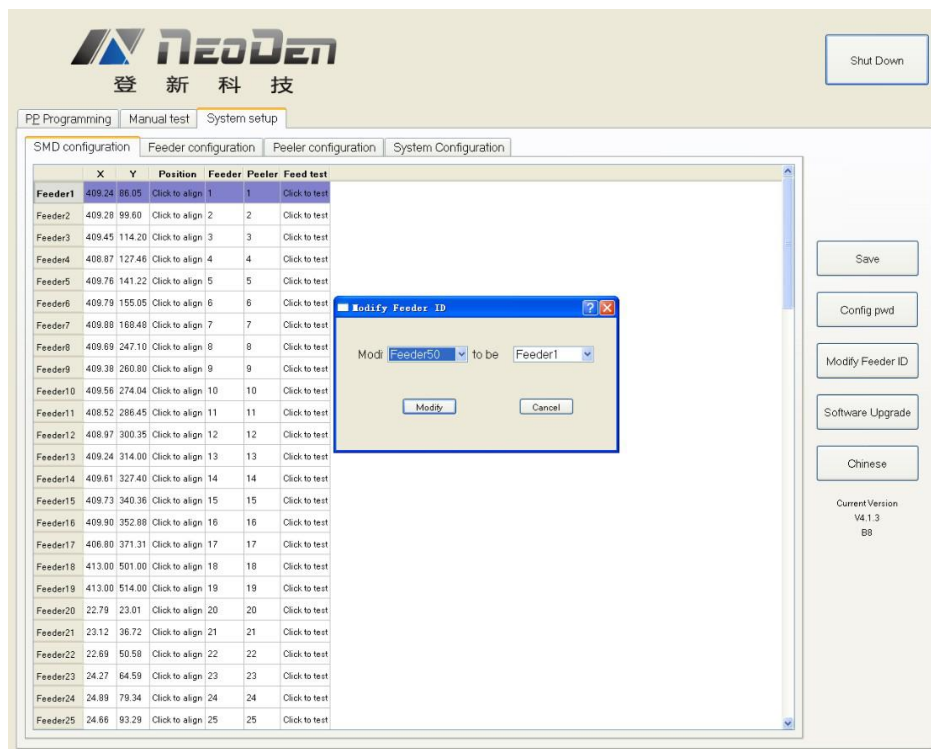

Figure 4.23
- (1) “Save”: click it for saving after modify the parameters, saves any changes to configuration to the internal SSD.
- (2) “Config pwd” is only used on the “System configuration” tab. Pressing this Button and then pressing “OK” (with no password entered) allows access to the nozzle alignment functions and other settings. Normally, there is no need for a user to enter these functions. See the Figure 4.23